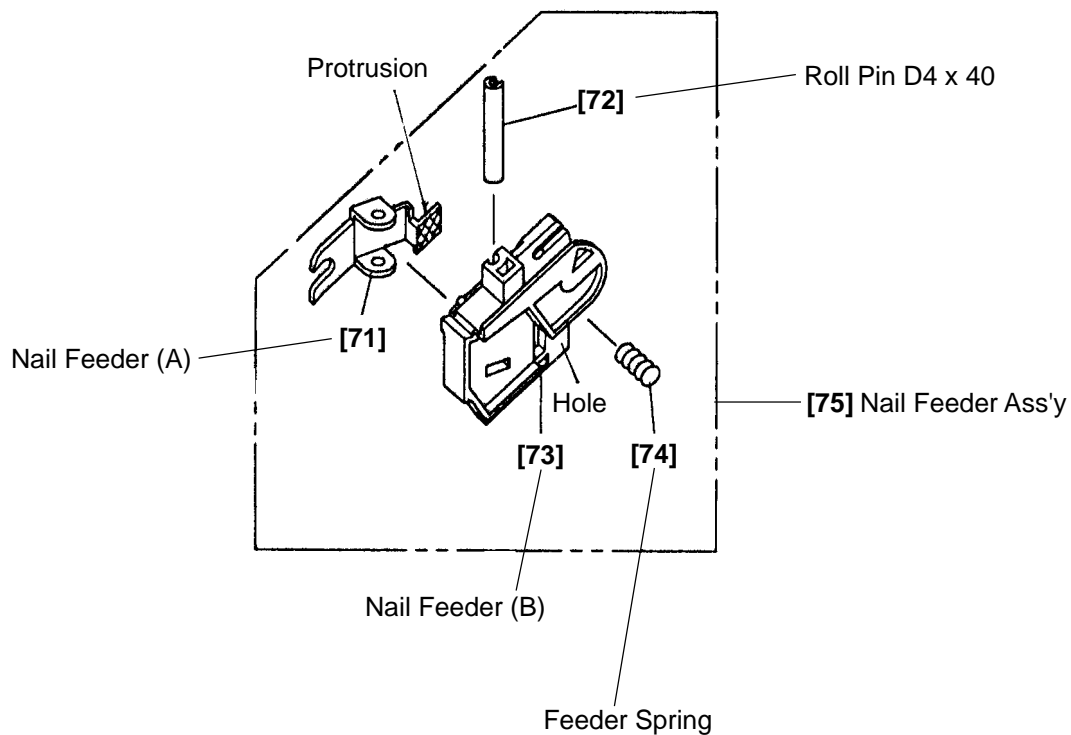

Fig. 21
(3) Nail Feeders (A) [71], (B) [73] and the related parts (See Fig. 21.)